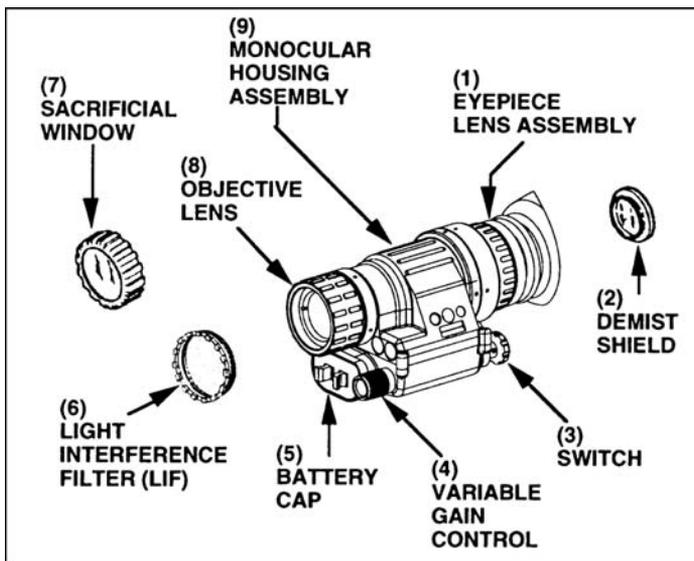

Figure 071-706-0001-2. Monocular night vision device and accessory items
(10) Compass.
(11) Additional items: demist shield, operator's manual, lens paper, carrying case strap, sacrificial window, light interference filter (LIF), eye guard, lens cap, neck cord, AA batteries, battery cap.
b. Inspect the monocular assembly and components for serviceability (figure 071-706-0001-2).